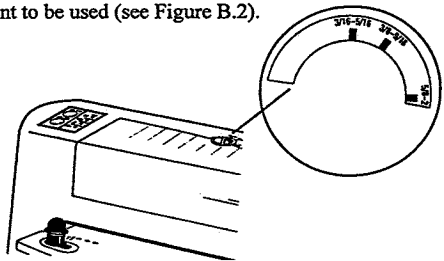

Figure B.2
1. To change the setting, rotate the knob on top of the machine to the appropriate setting that matches the size of the plastic comb binding element to be used (see Figure B.2).